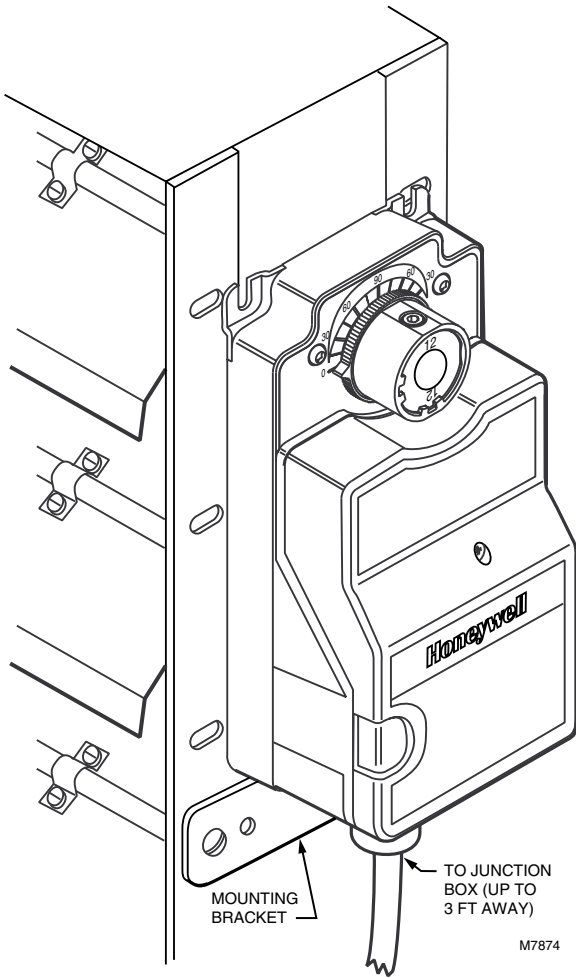
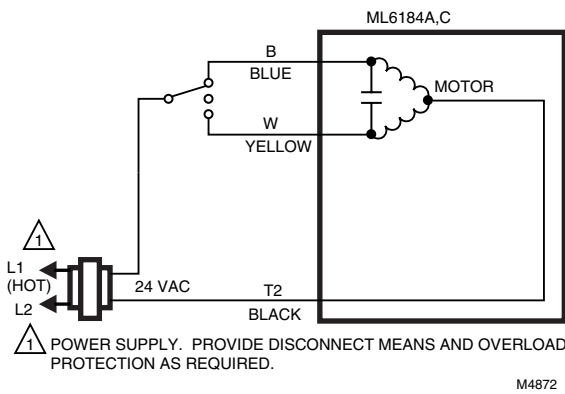

Fig. 4. ML6184 Actuator standard mechanical connection.
Fig. 5. ML6184A,C typical wiring diagram.
A typical actuator mechanical connection is shown in Fig. 4; wiring diagrams in Fig. 5 through 10.
All wiring must comply with local electrical codes, ordinances and regulations. The ML6184 is designed for use with a Class 2 power supply. Voltage and frequency of the transformer used must correspond with the characteristics of the motor and those of the power supply. Standard mechanical connection is shown in Fig. 4. See Fig. 5 for a typical wiring connection.
- ❶ Check that actuator position indicator and damper shaft position agree.
- ❷ If actuator has timeout function, apply 24 Vac to black (T1) and red (T2) leads (see Fig. 5).
- ❸ Apply 24 Vac control signal to blue (B) lead with respect to the black (T1) lead. Actuator should drive the damper open (clockwise ).
- ❹ Apply 24 Vac control signal to yellow (W) lead with respect to black (T1) lead. Actuator should drive the damper closed (counterclockwise .
- ❺ If 24 Vac control signal is removed the actuator should stop.